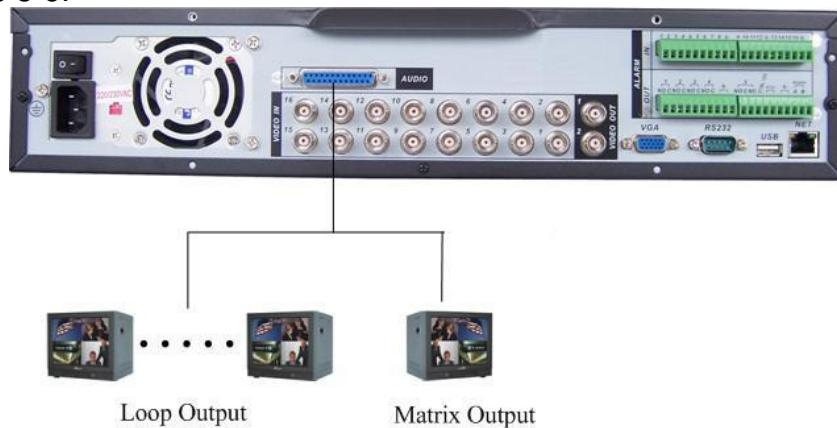

Figure 3-5
3. Verify the video from each source and troubleshoot as necessary. Please refer to Figure 3-5.